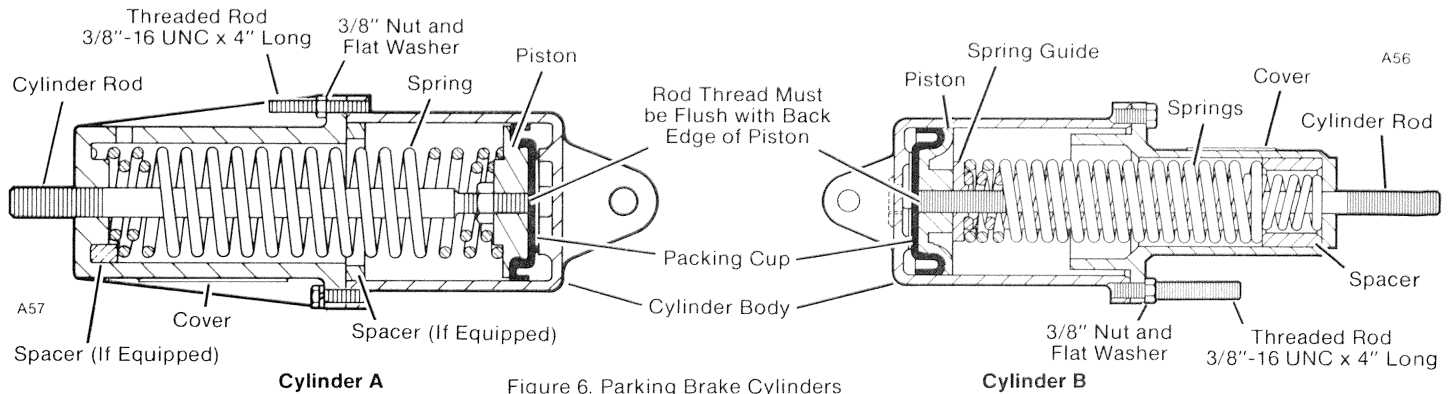

Figure 6. Parking Brake Cylinders
Disassembly (Cylinder A or B, Figure 6)
2. Obtain two threaded rods (3/8"-16 UNC x 4" long), two nuts, and two flat washers (see Figure 6 for details).
4. Assemble the threaded rods, nuts, and flat washers to the cylinder as shown in Figure 6. Tighten the threaded rods and nuts so they are tight against the cover.